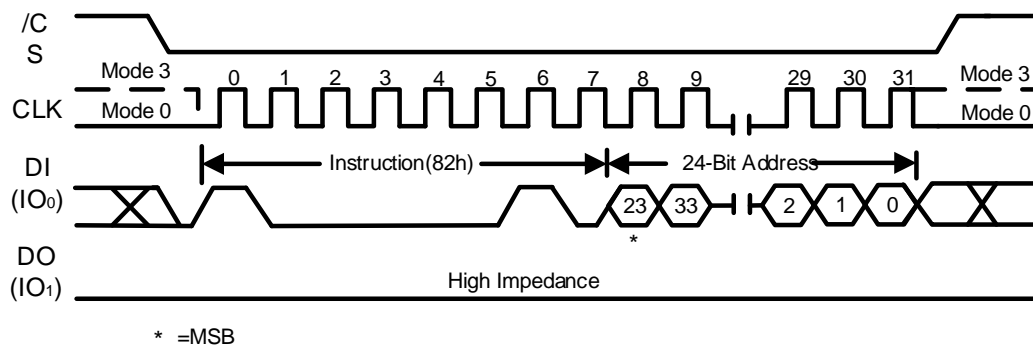

Figure15. Mini Sector Erase Sequence Diagram
The Mini Sector Erase command sequence: CS# goes low → sending Sector Erase command → 3-byte address on DI → CS# goes high. The command sequence is shown in Figure15. CS# must be driven high after the eighth bit of the last address byte has been latched in; otherwise the Mini Sector Erase (MSE) command is not executed. As soon as CS# is driven high, the self-timed Mini Sector Erase cycle (whose duration is t_{MSE}) is initiated. While the Mini Sector Erase cycle is in progress, the Status Register may be read to check the value of the Write in Progress (BUSY) bit. The Write in Progress (BUSY) bit is 1 during the self-timed Mini Sector Erase cycle, and is 0 when it is completed. At some unspecified time before the cycle is completed, the Write Enable Latch (WEL) bit is reset. A Mini Sector Erase (MSE) command applied to a sector which is protected by the Block Protect (SEC, TB, BP2, BP1, and BP0) bit (see Table 1-6) is not executed.
The Sector Erase command sequence: CS# goes low → sending Sector Erase command → 3-byte address on DI → CS# goes high. The command sequence is shown in Figure15. CS# must be driven high after the eighth bit of the last address byte has been latched in; otherwise the Sector Erase (SE) command is not executed. As soon as CS# is driven high, the self-timed Sector Erase cycle (whose duration is t_{SE}) is initiated. While the Sector Erase cycle is in progress, the Status Register may be read to check the value of the Write in Progress (BUSY) bit. The Write in Progress (BUSY) bit is 1 during the self-timed Sector Erase cycle, and is 0 when it is completed. At some unspecified time before the cycle is completed, the Write Enable Latch (WEL) bit is reset. A Sector Erase (SE) command applied to a sector which is protected by the Block Protect (SEC, TB, BP2, BP1, and BP0) bit (see Table 1-6) is not executed.